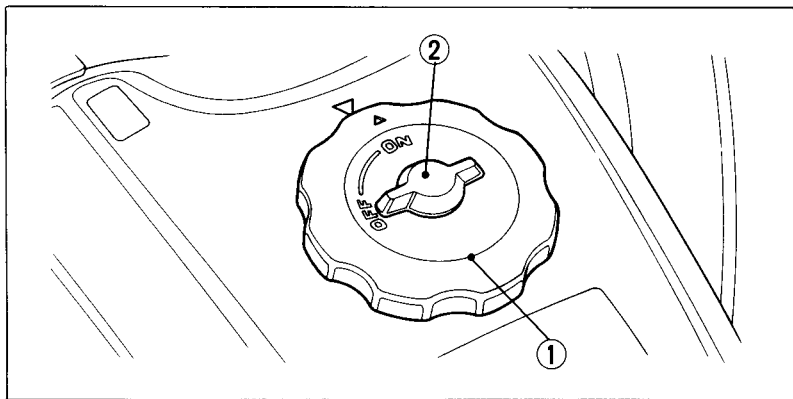

Fig. 2-22 (1) Fuel tank cap (2) Fuel cap vent lever
The fuel tank cap (Fig. 2-22) has a fuel cap vent lever (2) with ON and OFF positions. The lever should be turned to ON to allow fuel to flow when running the engine. Turn the vent lever to OFF to prevent fuel from flowing out the vent hole when transporting the TRX300FW.